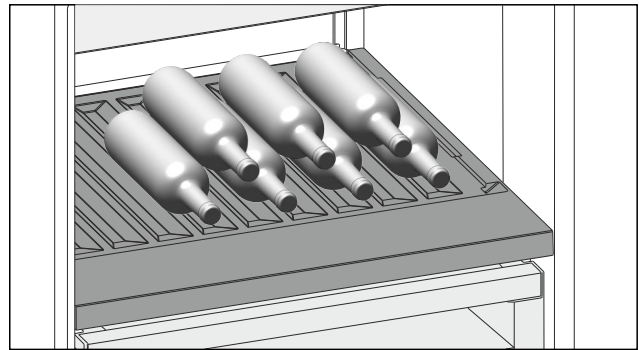

Fig. 107 Example illustration
- ▶ Insert the bottles facing backwards towards the rear wall. (see Fig. 107)